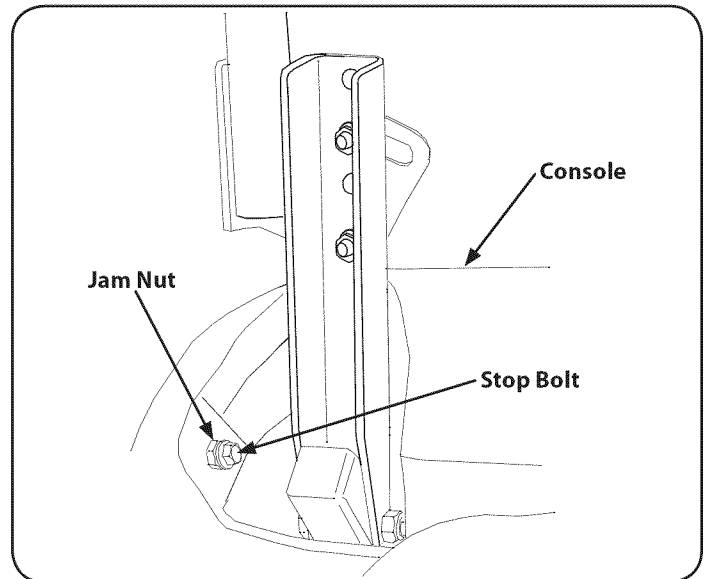

Figure 43
8. Locate the applicable stop bolt on the left or right console. See Figure 43.